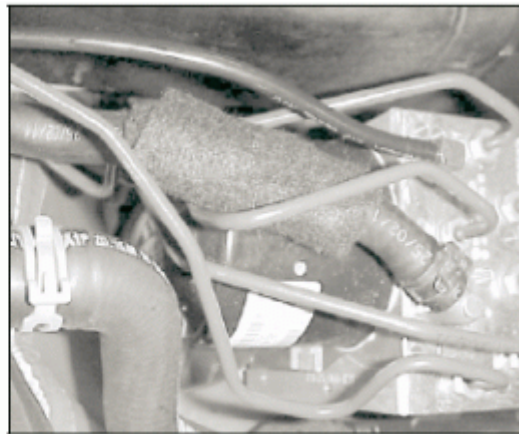

Figure 3
9. After filling, plug the end of the suction hose with finger, and attach the hose to the SBC hydraulic unit without s and the secure with hose clamp (Figure 3)